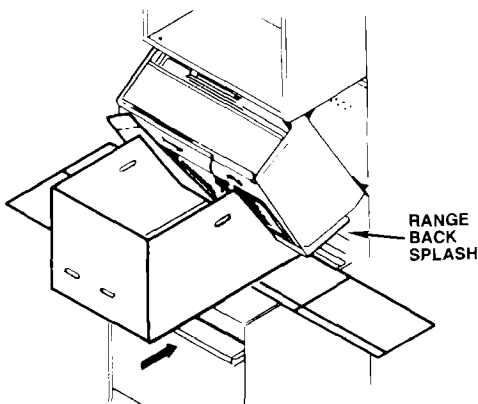

Figure 24
3. Slide carton toward range back splash until it stops. (See figure 24.)
4. Thread power cord through the hole at the bottom of top cabinet. (See figure 24.)